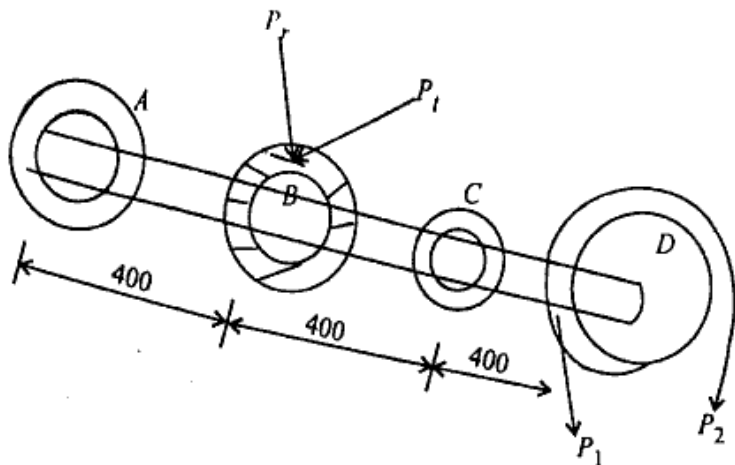

Fig. 3(b)
- (c) A transmission shaft supporting a helical gear B and an overhung bevel gear D is shown in Fig. 3(c). The shaft is mounted on two bearings, A and C. The pitch circle diameter of the helical gear is 450 mm and the diameter of the bevel gear at the forces is 450 mm. Power is transmitted from the helical gear to the bevel gear. The gears are keyed to the shaft. The material of the shaft is steel 45C8 ( $S_{ut} = 600$  and  $S_{yt} = 380$  N/mm2). The factors  $K_b$  and  $K_t$  of ASME code